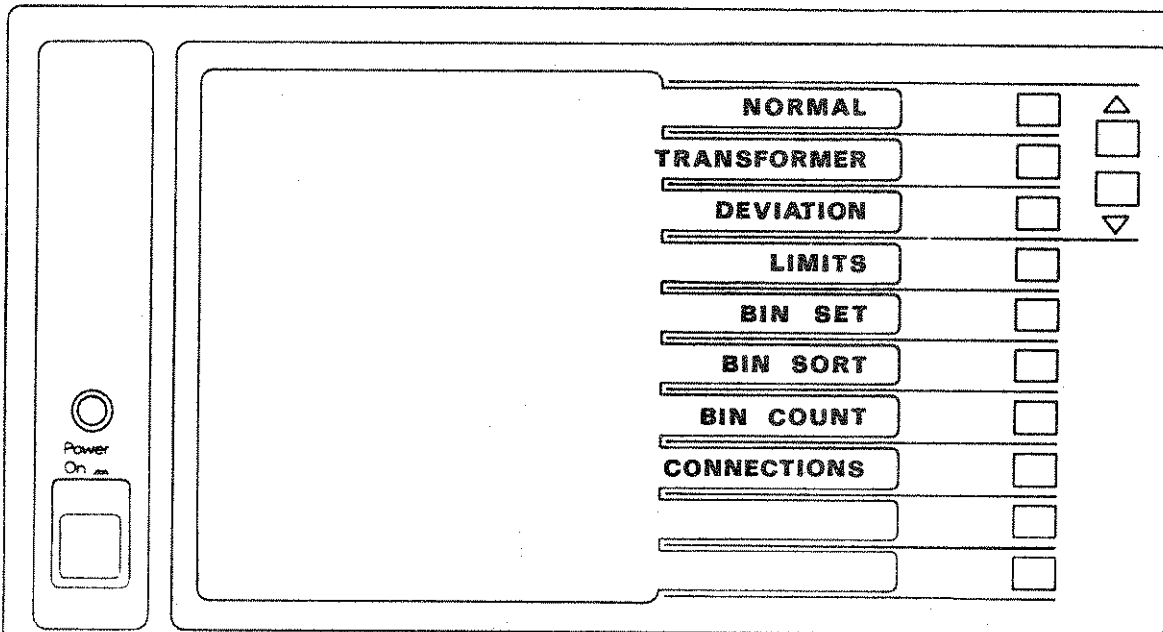
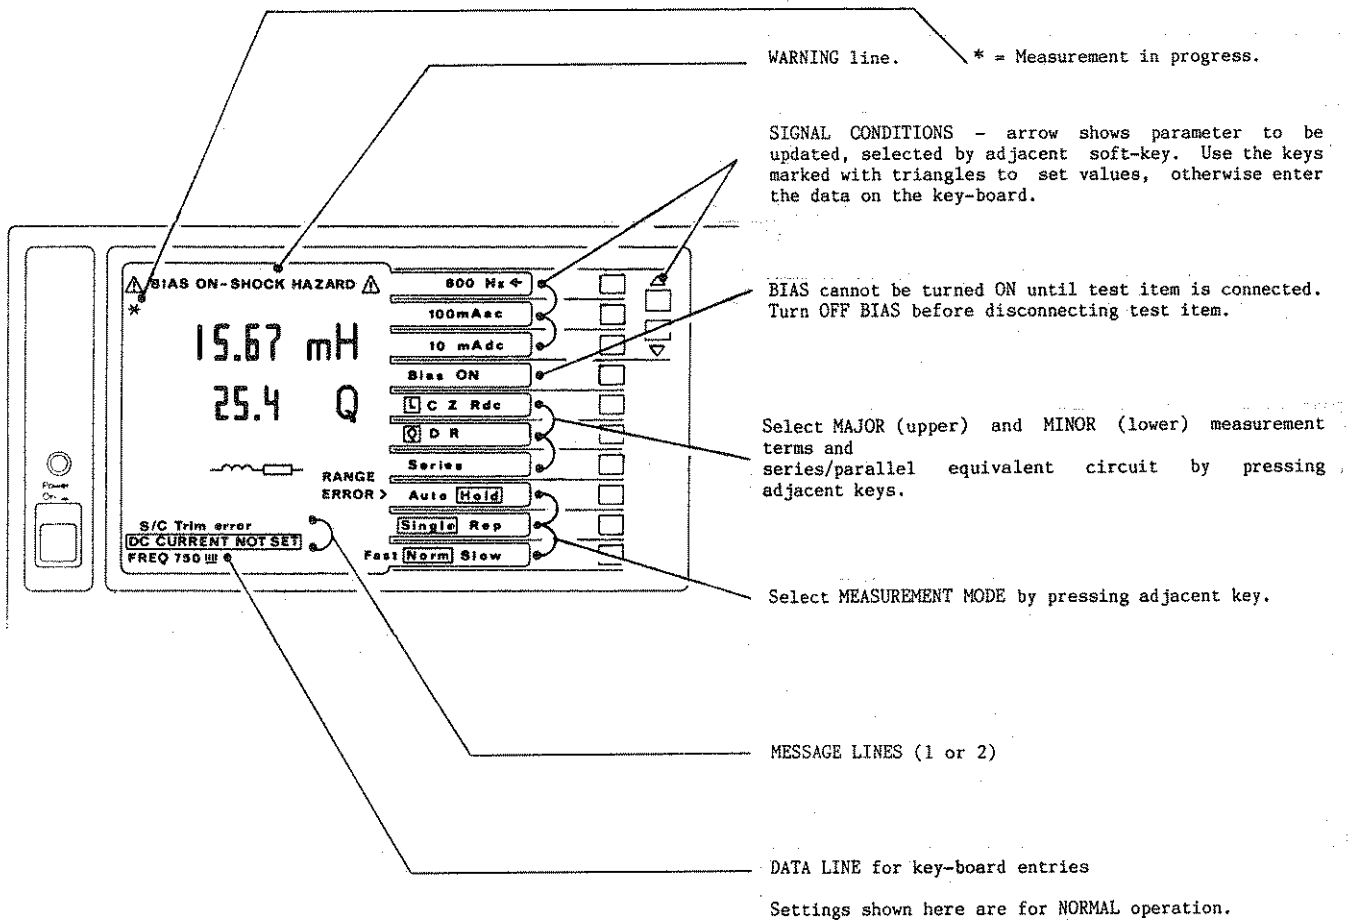

Figure 6 MAIN INDEX
Figure 12 Composite display, NORMAL, series L, R measurement
Operation is monitored on and prompted by screen displays e.g. figures 6, 13 etc. The display brightness control is on the back panel (figure 32).
Measurements start with the MAIN INDEX display, see figure 6. Formats of other displays are shown in figure 12 (which is a specially prepared composite illustration). Operator actions for all measurement procedures of the 3245 are broadly similar. Detailed below are the actions for measuring an isolated component - typical model - series L,R. Figure 1 has the controls annotated.
- e) Press MAIN INDEX BUTTON (16); display like fig. 6
- f) Press the NORMAL button (1); display like fig. 12
- g) Press the frequency button (1); arrow points to frequency
- h) Press either 'Δ' button (11) to increment the parameter